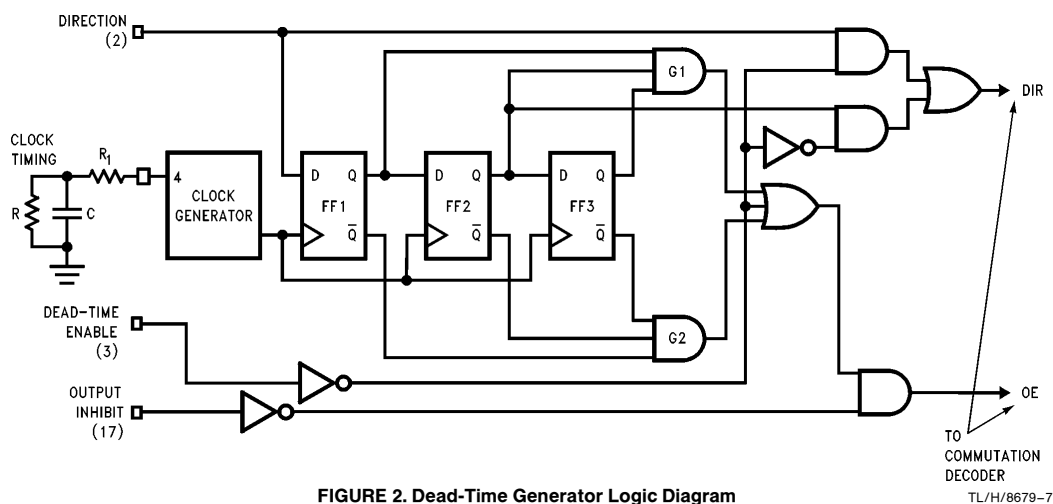

FIGURE 2. Dead-Time Generator Logic Diagram
**Pin 4: CLOCK TIMING.** An RC network connected between this pin and ground sets the period of the clock oscillator, which determines the amount of dead-time. See Figure 2 and text.
Figure 2 shows the logic of the dead-time generator. The dead-time generator includes an RC oscillator to generate a required clock. Pin 4 (CLOCK TIMING) is used to connect an external RC network to set the frequency of this oscillator. The clock frequency should be adjusted so that two periods of oscillation just slightly exceed the worst-case turn-off time of the power switching devices. As shown by